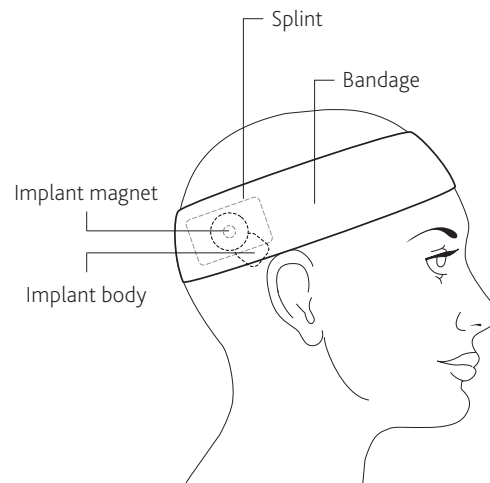

Figure 5: Fitting the splint and compression bandage
3. Use a splint and centre it over the implant magnet site (as marked) against the skin. Ensure the splint is held in place over the implant magnet. See *Figure 5* below for the implant magnet location. You may need the assistance of another person to hold the splint in place while you bandage. Otherwise, use the supplied tape to maintain the splint position prior to bandaging.
4. Use the elasticised compression bandage and ensure the centre of the bandage is over the implant magnet site and the splint is fully covered. See **Figure 5** below.